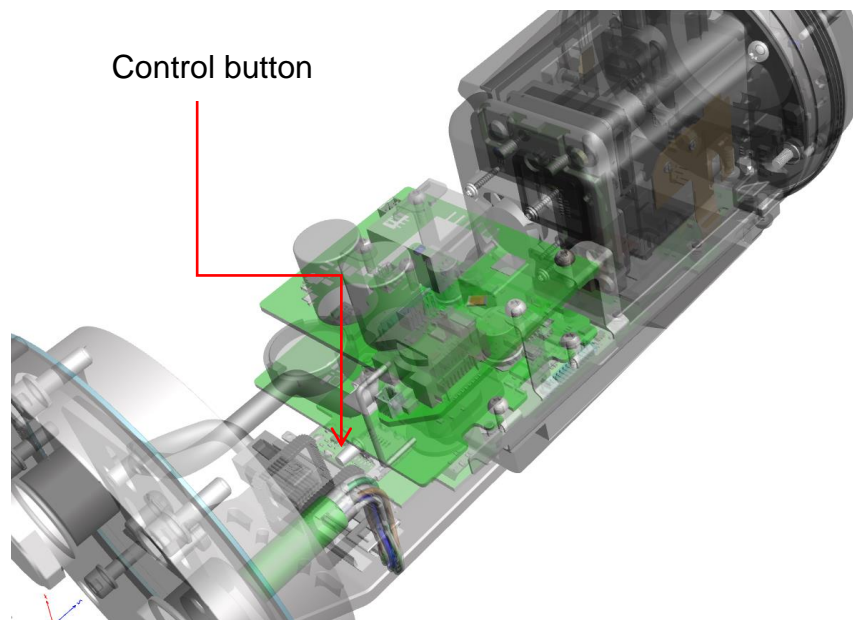

Figure 6.15 – Control button
2. Hold the control button pressed (q.v. figure 6.15) while, at the same time, switching on the power supply (PoE)